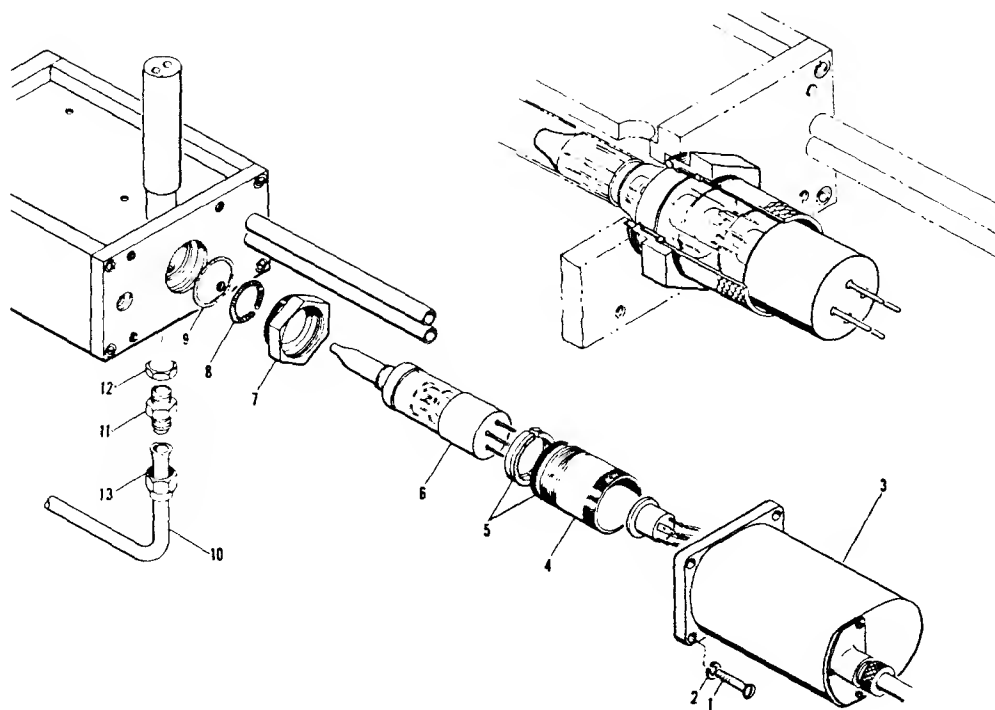

Figure 5-15. Exploded View of Klystron Mounting Parts (618C)
- a. Remove the socket housing cap, screws and lock washers (items 1 and 2, Figure 5-15). Pull the housing (3) away until the tube socket is exposed.
- c. Unscrew and remove sleeve (4) which covers klystron body. Do not at any time apply side motion to the klystron; to do so will break the tube.
- d. Turn klystron (6) clockwise, and at the same time pull straight back from the cavity. Do not attempt to rock the klystron.
- e. Remove rubber washer (14) and clamping ring (5).
- f. Unscrew retaining nut (7) at cavity entrance using socket wrench supplied with the instrument. Remove the seating ring (9) and the spring (8) below retaining nut. Do not use this spring or washer again except as a necessity. New springs and washers are supplied with replacement klystrons ordered from Hewlett-Packard Co.
a. Install new waffle seating ring (9, Figure 5-15) and then new spring (8) in cavity entrance. Ends of spring should meet to form a complete circle.
b. Thread the retaining nut (7) into cavity until it is seated very lightly against the spring. Press spring into place under the nut so that it forms a circle. Tighten the nut slightly to hold the spring in position.